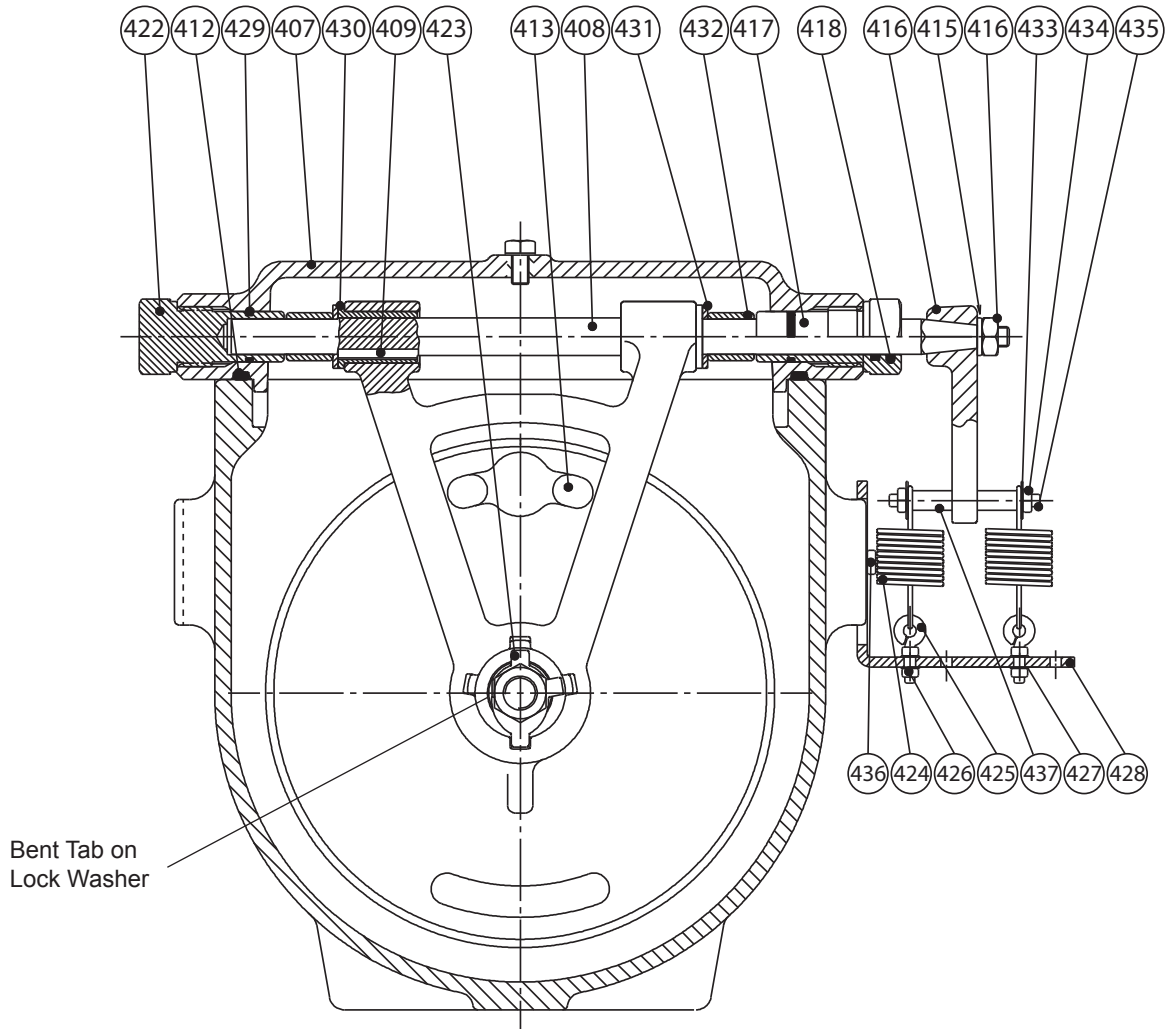

Fig. 7
**Note:** When ordering, specify whether your valve is resilient seated or metal seated. For 10-inch and 12-inch valves, two (2) Bonnet O-rings (429) are used in place of the Outer Bushing O-rings (421). Two (2) Hinge Connectors (430), two (2) Retaining Washers (431) and two (2) Shaft Spacers (432) are also required for assembly. (See figure 7) No Disc Bushing is required for the Disc Assembly.
2. Remove the bushings. For valves with a lever, one bushing is open (417) and one bushing is closed (422). For valves without a lever, both bushings are closed (422).
- a. Valve sizes 3-inch through 8-inch, without a lever, have Outer Bushing O-rings (421) only.
- b. Valve sizes 10-inch and 12-inch without a lever have two two (2) Bonnet O-rings (429).
- c. Valve sizes 10-inch and 12-inch, equipped with a lever, have two (2) Inner Bushing O-rings(418), and two (2) Bonnet O-rings (429).
- d. 3-inch through 8-inch valves equipped with a lever, have two (2) Inner Bushing O-rings (418) located inside the Open Bushing (417) and two (2) Outer Bushing O-rings (421).
4. Slide the Shaft-Hinge-Disc assembly from the bonnet (407).
5. Remove the Disc Nut (401) , Disc Bushing (403) Disc Washer (402), and Disc Lock Washer (423)\* to remove Disc (413) from Hinge (404).
NOTE: On 10-inch and 12-inch valves, a tab on the Disc Lock Washer must be bent to remove the lock washer. ( See figure 7 )